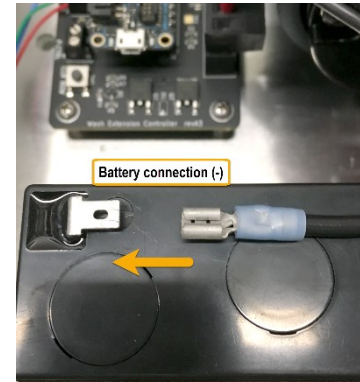

Figure 10-7: Battery connection on Wash Extension
3. Connect the loose Faston connector into the battery terminal as seen in Figure 10-7.